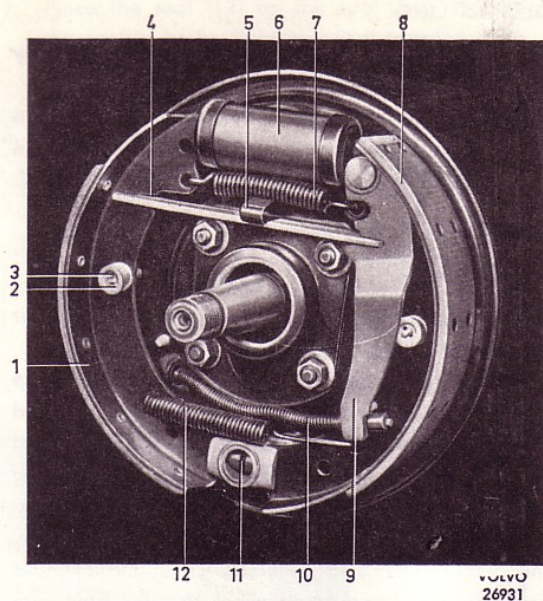

Fig. 25. Rear wheel brake unit.
2. Rivet on ready-made genuine Volvo linings. The front lining is placed towards the lower end of the shoe and the rear lining towards the upper end, see Fig. 25. Use rivets as shown in the specifications and a rivet press with suitable drifts. Begin riveting from the
The procedure for bonding varies with different makes of oven and testing apparatus so that it is not possible to give a general description. Follow the instructions of the bonding compound manufacturer carefully. The position of the linings on the shoes is shown in Fig. 25. Only special bonding compound must be used which is specially manufactured to withstand the high temperatures which occur during prolonged braking.
3. Place the handbrake link in position, ensuring that it is turned correctly. Hook on the lower return spring and fit the front brake shoe with brake spring pliers. Remove tool SVO 4074. Fit the spring clip (5, Fig. 25).